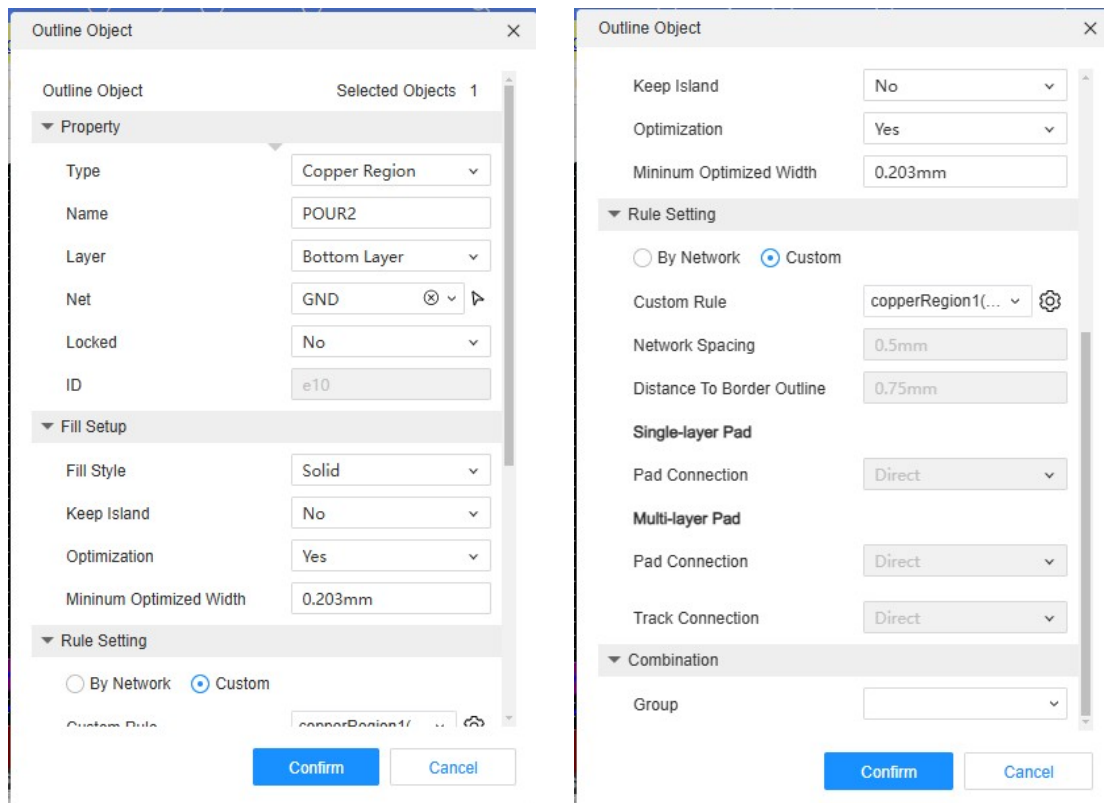

Fig.20. PCB Outline
- Try to make the PCB in the bottom layer only. (As shown in Fig. 20)